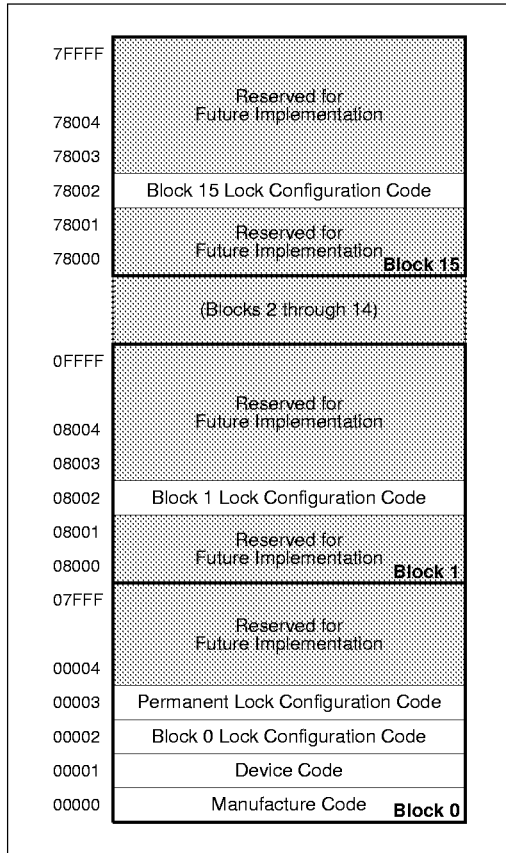

Fig. 2 Device Identifier Code Memory Map
The read identifier codes operation outputs the manufacture code, device code, block lock configuration codes for each block, and the permanent lock configuration code (see Fig. 2). Using the manufacture and device codes, the system CPU can automatically match the device with its proper algorithms. The block lock and permanent lock configuration codes identify locked and unlocked blocks and permanent lock-bit setting.
IA = Identifier code address : see **Fig. 2**.
The identifier code operation is initiated by writing the Read Identifier Codes command. Following the command write, read cycles from addresses shown in **Fig. 2** retrieve the manufacture, device, block lock configuration and permanent lock configuration codes (see **Table 4** for identifier code values). To terminate the operation, write another valid command. Like the Read Array command, the Read Identifier Codes command functions independently of the VPP voltage and RP# can be VIH or VHH. Following the Read Identifier Codes command, the following information can be read :
1. X selects the specific block lock configuration code to be read. See **Fig. 2** for the device identifier code memory map.